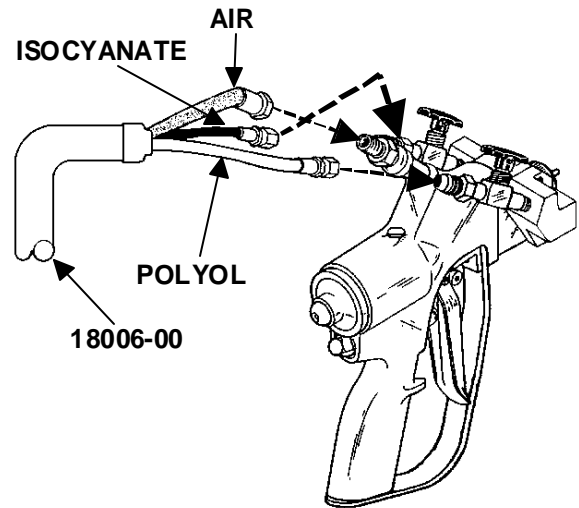

Fig. 9
8. Attach hose fittings at other end of Whip Hose to Probler Gun. (see Fig. 9)